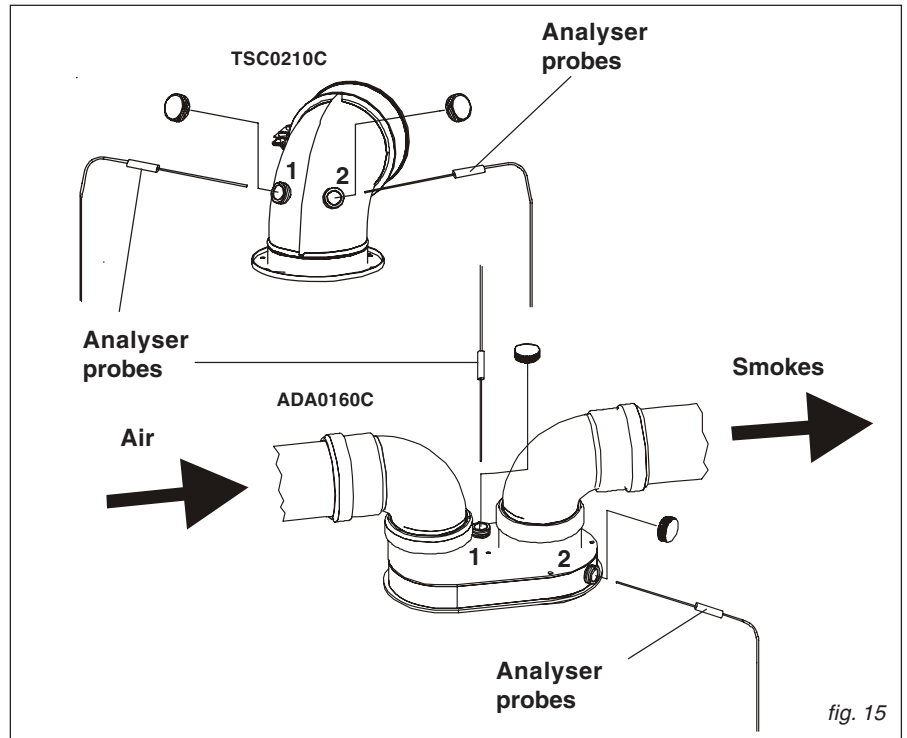

fig. 15
- the combustion air temperature measured in hole 2 (see fig. 15).
- the flue gas temperature and CO2 % measured in hole 1 (see fig. 15).